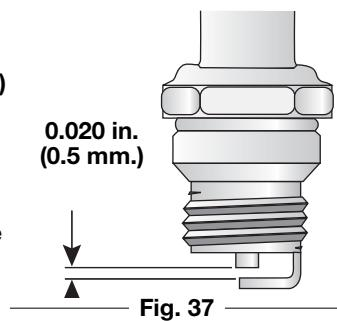

Fig. 37
2. Locate the muffler, but do not remove it. Find the screw on the bottom of the muffler (Fig. 37). Remove the screw using either a torx #20 or flat blade screwdriver.
3. Replace a cracked, fouled or dirty spark plug. Set the air gap at **0.5 mm (0.020 in.)** using a feeler gauge (Fig. 37).